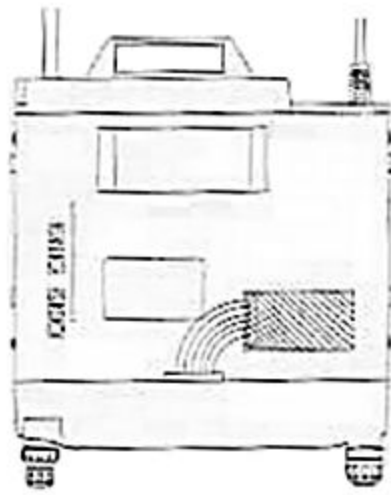

Figure 2
- Referring to Figure 2, locate the unused 12-pin connector just inside the front panel. Plug the FTS-22's cable into the connector.
- Peel the covering from one side of the double-sided tape provided with the FTS-22, and stick it in the bare area designated in Figure 2 as the "FTS-22 Mounting Location."